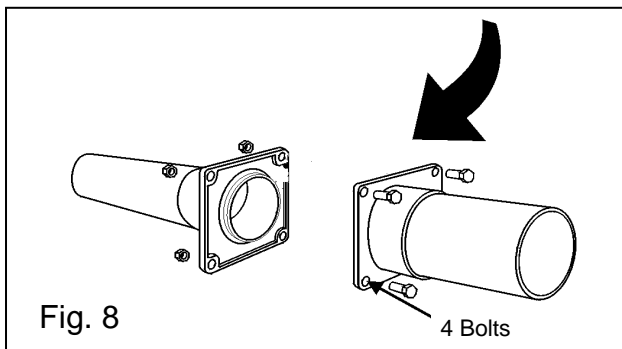

Fig. 8
Step 9: Ref **Fig. 8:** Separate pipe flanges and insert Drain Master with gate closed making sure the seals are in their correct position on the flanges. See Step 7. Rotate the valve to align the four bolt holes with the flange holes and insert the four new bolts and nuts. :